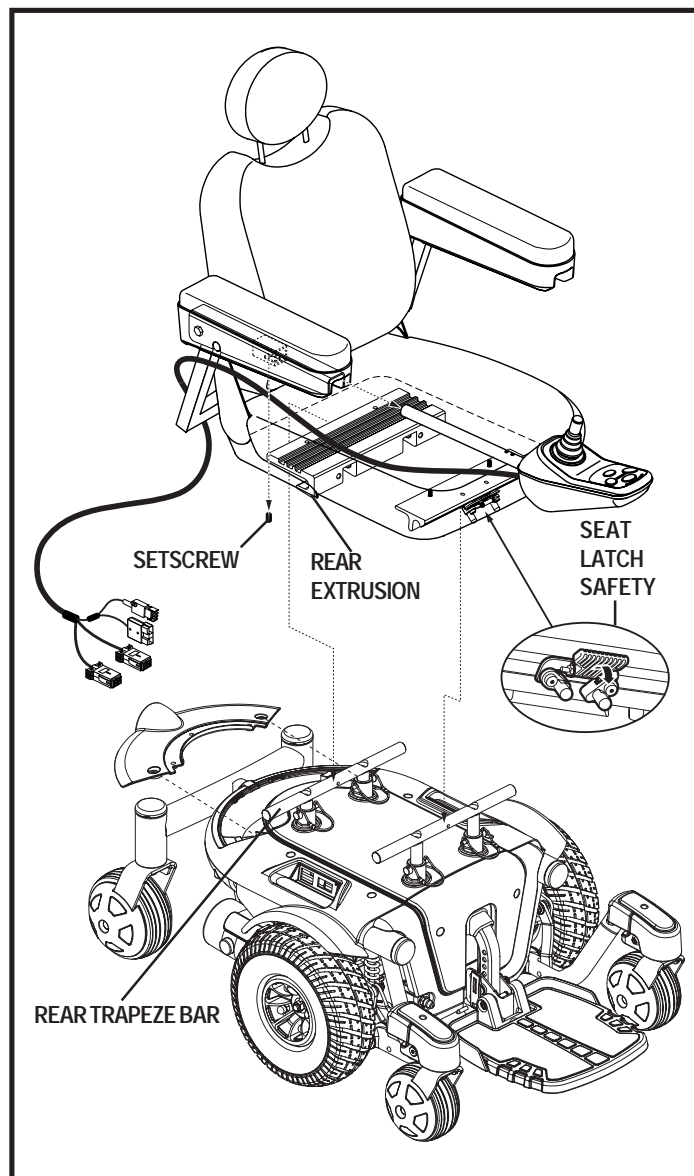

Figure 11. Universal Mounting System
It may be necessary to install the seat either prior to initial operation or after transporting your power chair. Most seats are attached to the power base with the Universal Mounting System (UMS). The UMS consists of universal parts that may be attached to any medium-back or high-back seat, regardless of seat width or seat depth. The two main components are aluminum extrusions mounted to the seat base. These extrusions attach to a pair of trapeze bars that are mounted to the power base. See figure 11.
1. Tilt the seat back and slide the rear extrusion onto the rear trapeze bar. See figure 11.
3. Flip the seat latch safety down. See figure 11.
4. Install the controller into one of the armrests. See figure 11. Tighten the setscrew.